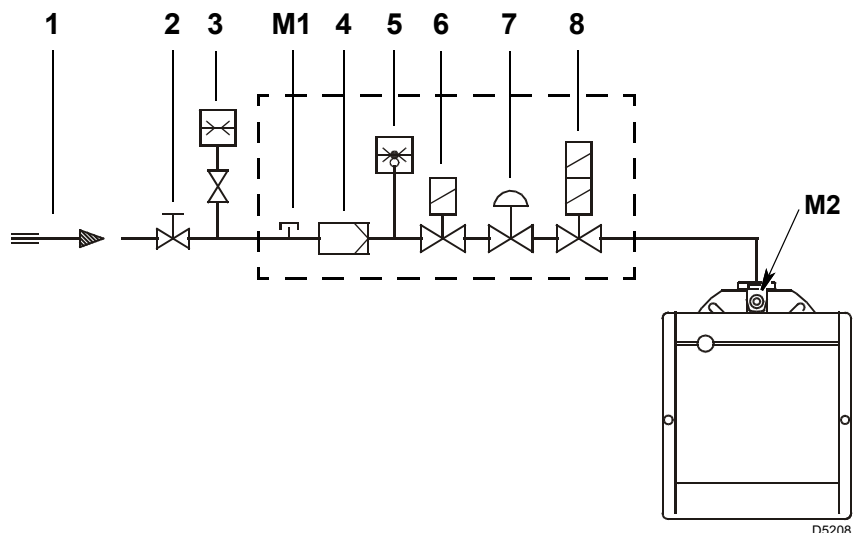

Fig. 16
Key (Fig. 16)
Gas pressure measured at test point M2)(Fig. 16 on page 19), with:
- subtract the pressure in the combustion chamber from the pressure of the gas at test point M2)(Fig. 16 on page 19).
Gas pressure at test point M2)(Fig. 16) = 10 mbar
To calculate the required gas pressure at test point M2)(Fig. 16 on page 19), with the maximum modulating output at which you want the burner to operate having been fixed:
- Read on the right, column 1, the pressure at the socket M2)(Fig. 16 on page 19).